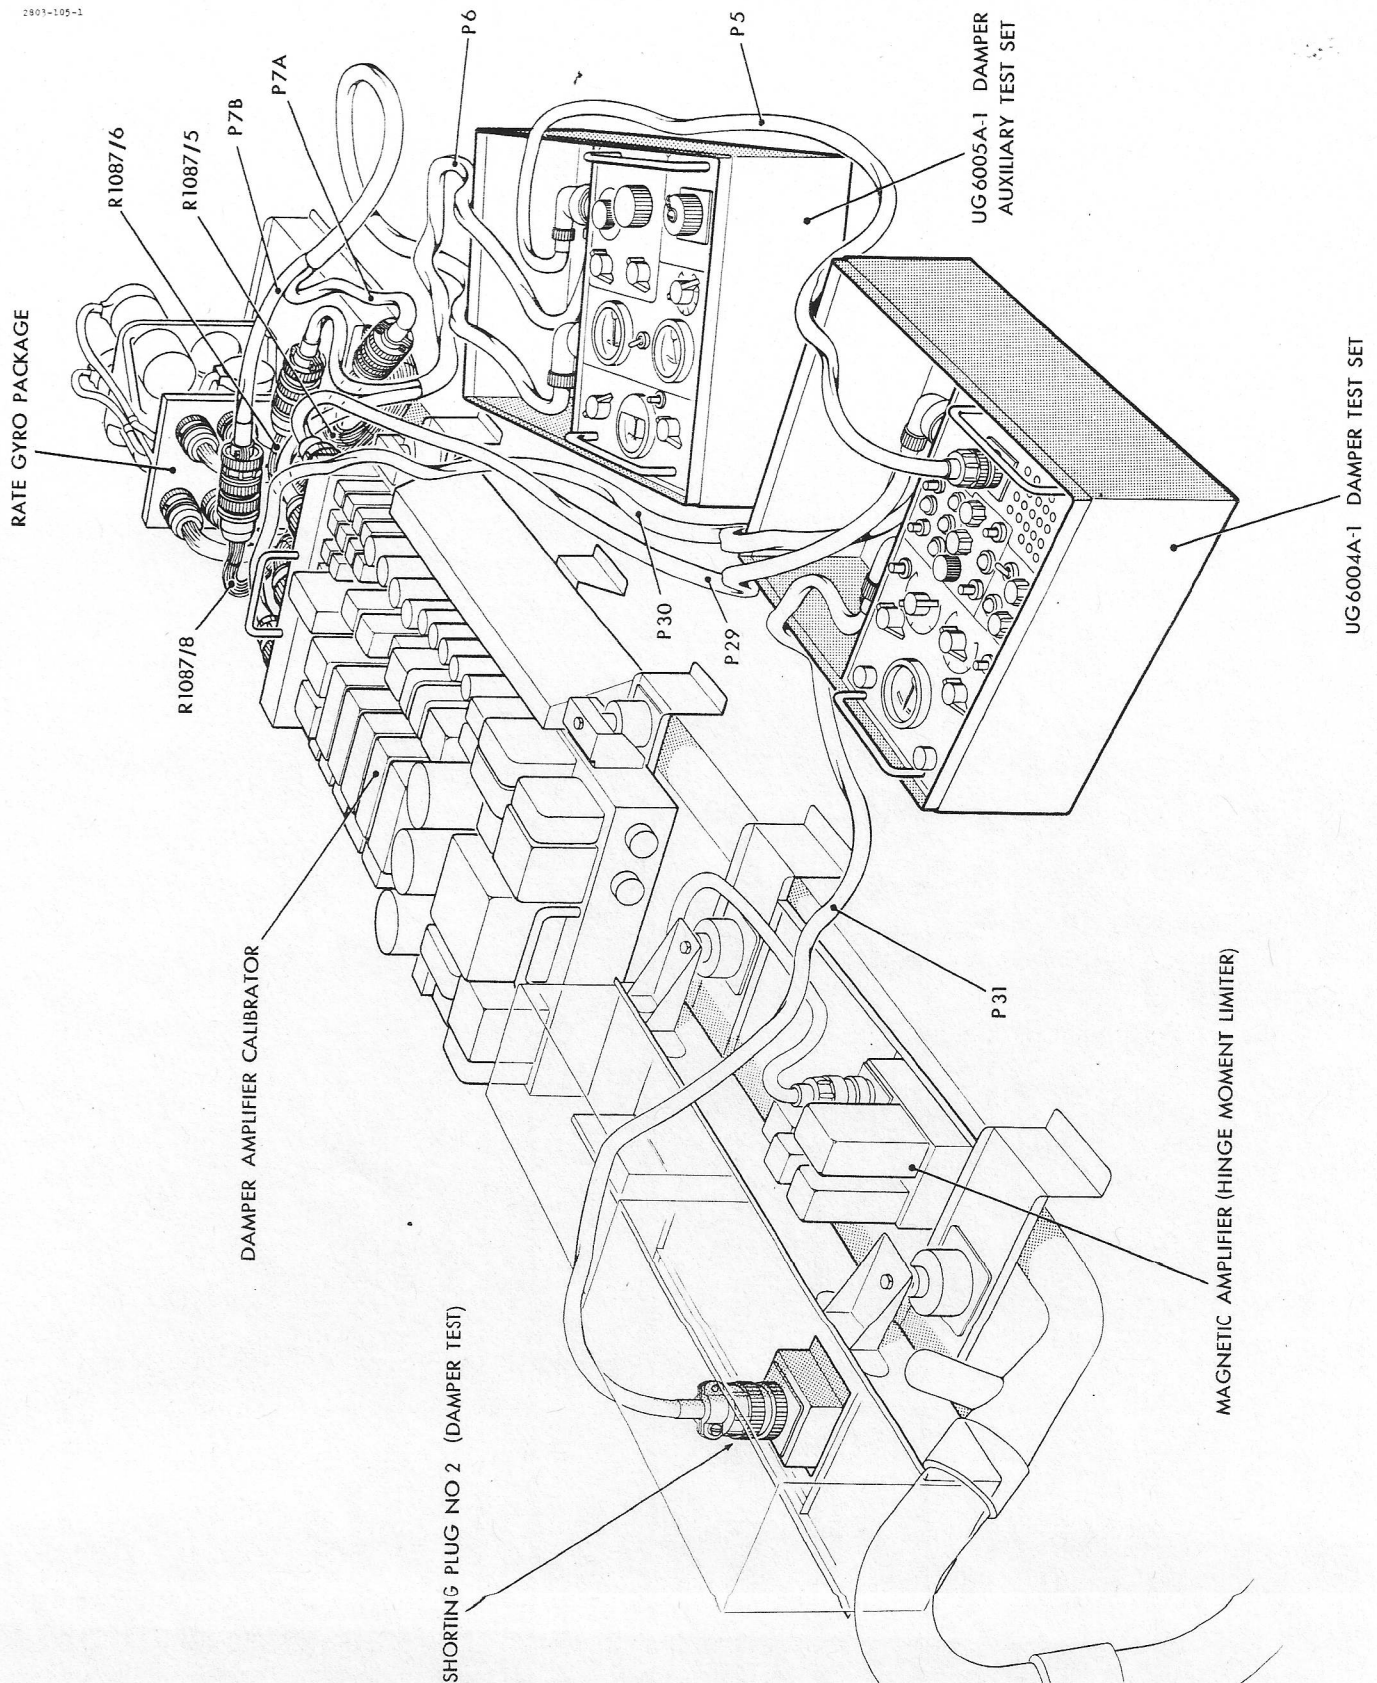

FIG. 16 CONNECTING TEST EQUIPMENT TO AIRCRAFT
- 5.3.34 With reference to Figure 16 connect the UG 6005A-1 Damper Auxiliary Test Set to the UG 6004A-1 Damper Test Set and the aircraft in the following manner: